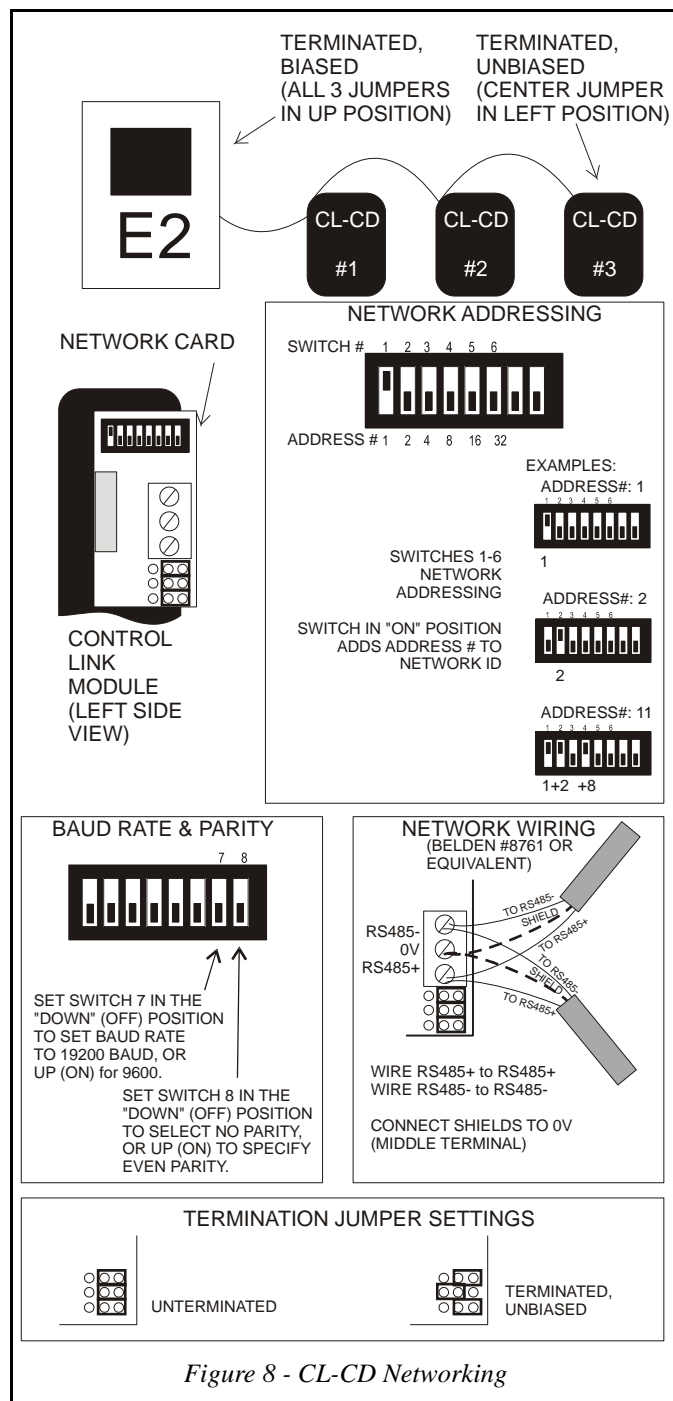

Figure 8 - CL-CD Networking
CL-CDs must be networked together in a daisy-chain configuration (all CDs networked in series from the E2, and terminated at the two end devices). No splits or “star configurations” are allowed. The network cable must be Belden #8761 or equivalent. Observe network polarity, wiring RS485+ to RS485+, 0V to 0V, and RS485- to RS485- (see *Figure 8*).
On the CL-CD network card, the termination and bias jumpers are located below the network connector. To terminate a device, set the center jumper to the LEFT position (i.e., toward the rear of the module). Leave the two outside jumpers in the RIGHT position (i.e., toward the front of the module). Refer to *Figure 8*.
Each CL-CD must have a unique network address. The network address is set by switches 1-6 of the DIP switch bank on the network card. Switches 1-6 correspond to binary digits of the network address (1, 2, 4, 8, 16, and 32 respectively). Each switch in the UP (ON) position adds the corresponding value to the network address. CL-CDs should be numbered in order starting with unit #1 (see *Figure 8*).